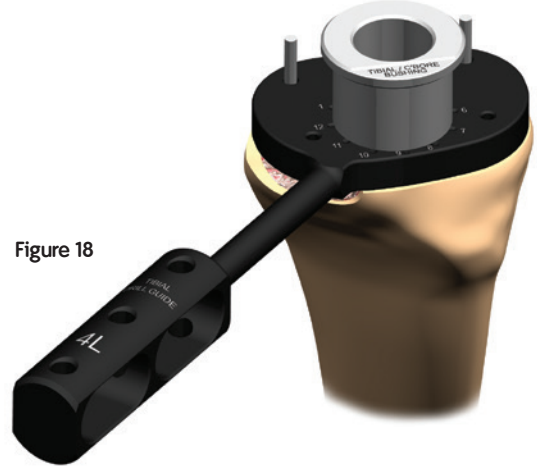

Figure 18
9. If removed, replace the Tibial Counterbore Guide Bushing Assembly over the pins (Figure 18).